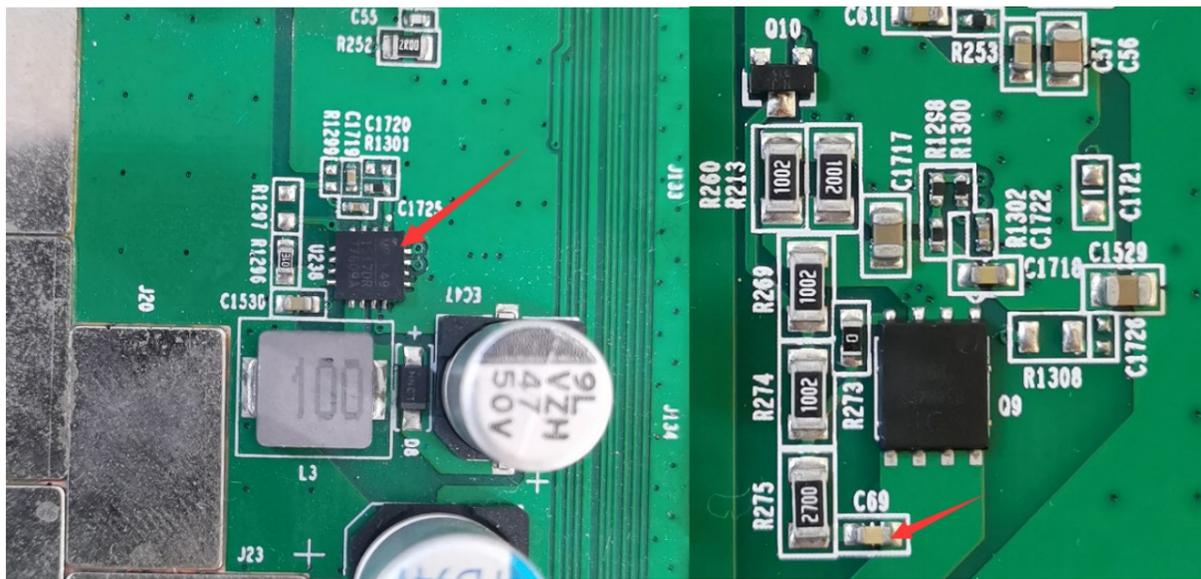

Figure 5-8
Step 4: check the boost circuit output, C69 in the Figure 5-8 can measure 20V voltage.